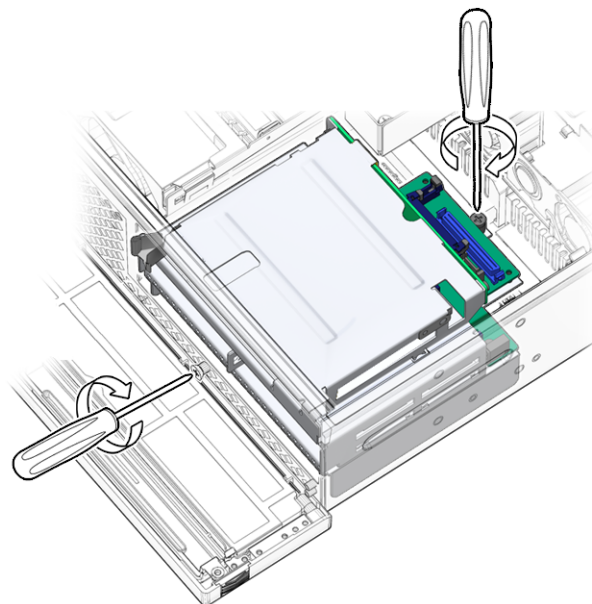

FIGURE 3-29 Tightening the Mass Storage Assembly Screws
4. Tighten the screws at the front of the chassis and the back of the mass storage assembly (FIGURE 3-29).